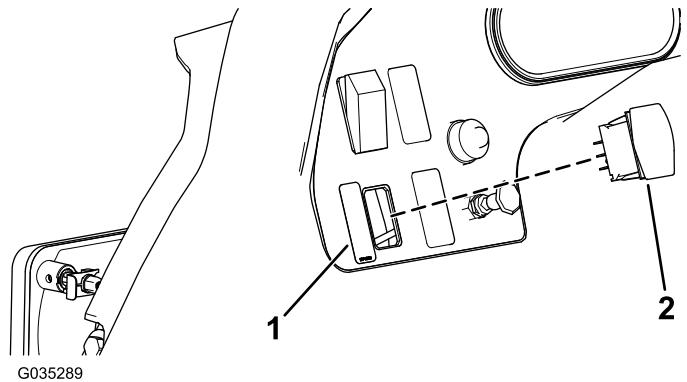

Figure 8
2. Insert the rocker switch into the opening and apply the work-light decal to the left of the rocker switch (Figure 8).